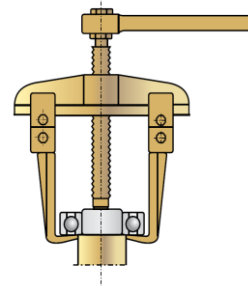

Figure 11.1: Device to withdraw bearing
5. Remove the bearing attached in the back shaft tip with the help of a bearing withdrawing device (Figure 11.1). By removing the bearing, it shall be discarded.
5. Remove the exciter rotor according to item 13.2.2 of this document.
6. Remove the bearing attached to the back shaft tip with the help of a bearing extractor device, illustrated in Figure 11.1. By removing the bearing, it shall be discarded.